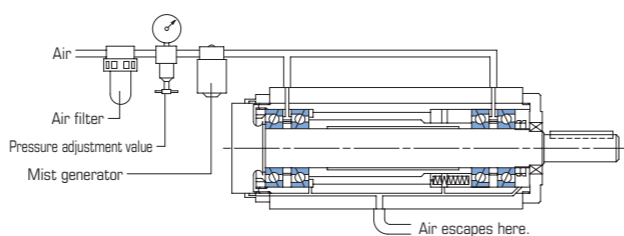

Figure 6.2 Example of Spindle Unit Using Vapor Lubrication
② Vapor lubrication (oil mist lubrication)
- With this lubrication method, the bearing is air cooled and a small amount of oils required for lubrication is vaporized and sprayed onto the bearing. Figure 6.2 shows an example of oil mist lubrication.